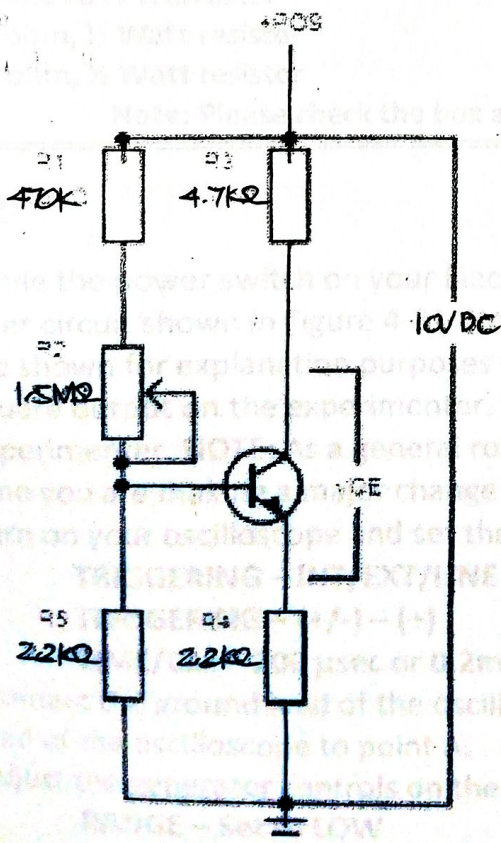

FIGURE 4-13
8. Rewire the circuit so that it appears as shown in figure 4-13. Notice that the 470 K ohm resistor must be replaced with a 10 K ohm resistor and a 22 K ohm resistor must be between the transistor's base and ground. Now the circuit is emitter feedback in conjunction with the voltage divider bias.